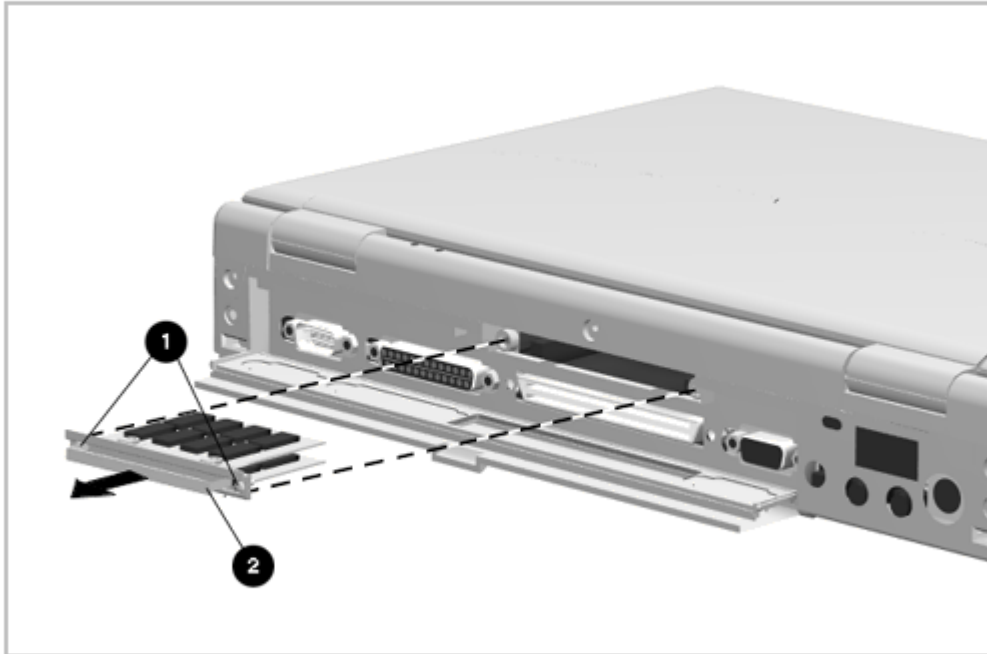

Figure 5-18. Removing a Memory Module
2. Open the connector cover and loosen the two screws [1] (Figure 5-18). The screws are captured in the memory expansion board carrier and do not separate from the carrier.
3. Pull on the handle [2] to remove the memory expansion board from the computer (Figure 5-18).